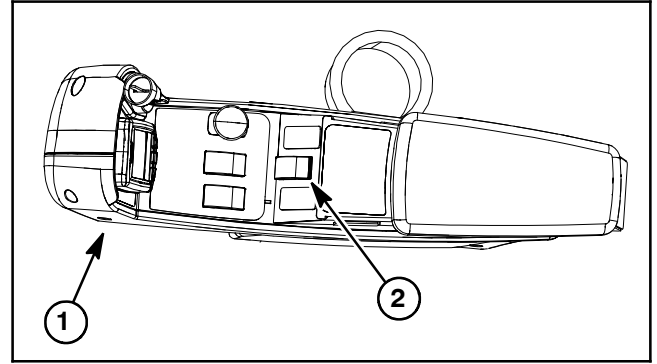

Figure 14
On the Groundsmaster 4500- D, a single lift switch on the console arm is used to raise and lower the five (5) cutting decks (Fig. 14).